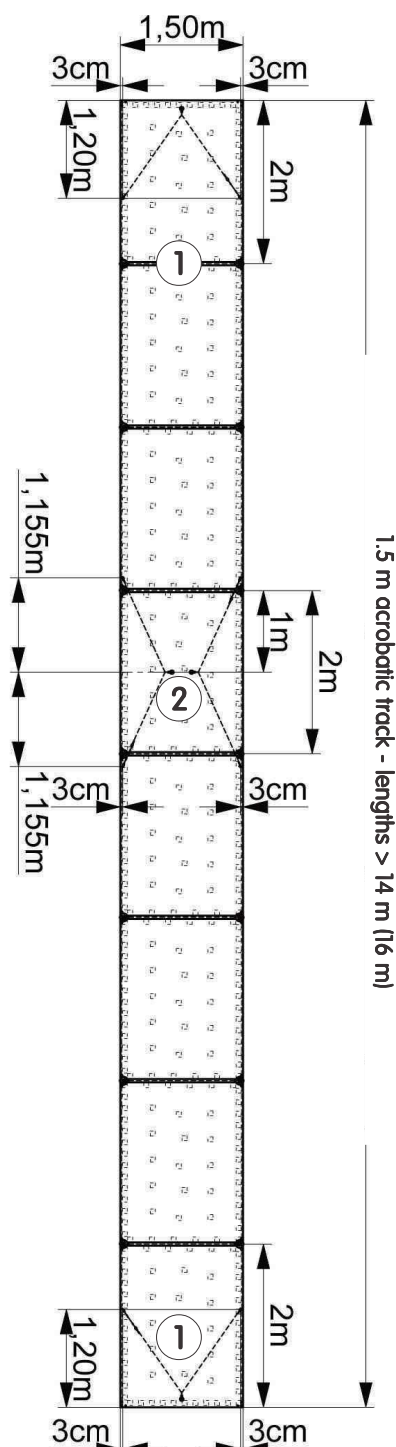
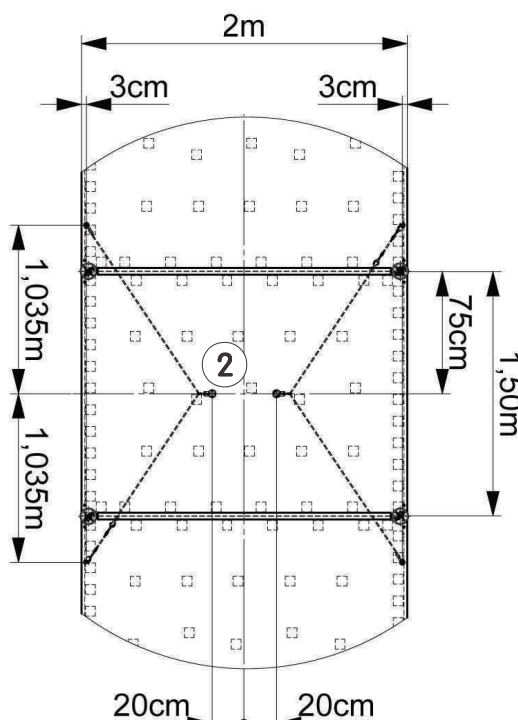

Figure 13
Figure 14
- Once the floor is positioned (depending on the desired and/or existing configuration of the gymnasium), detach the end panels (1), and a center panel (2) of the track.
- Refer to the steps described in «§ I. 1» for the end panels (1).
- Then, repeat the steps in the center of the track center panel (2) (see Fig. 13 and 13a or Fig. 14 and 14a).